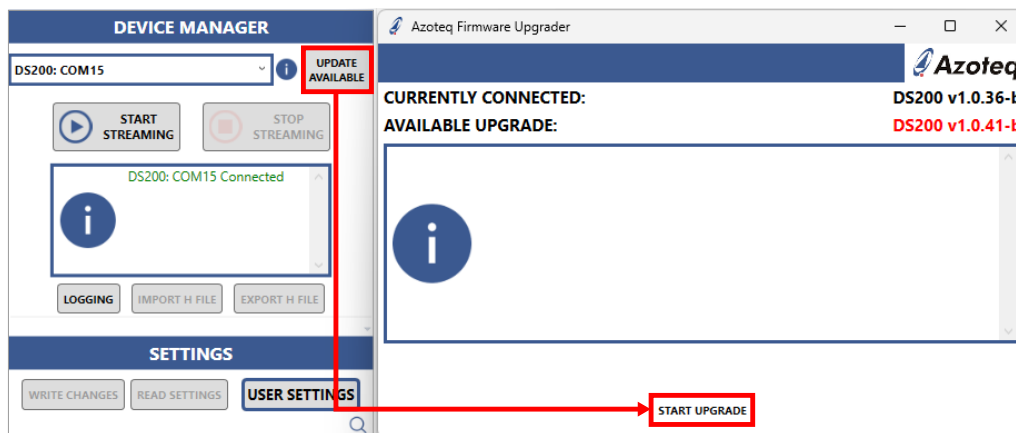

Figure 2.6: DS200 Firmware Upgrade
**Note:** If the connected DS200 device firmware is out of date, an ‘Update available’ button should automatically appear next to the device enumeration. Click this button to launch the Azoteq firmware upgrade tool and update the firmware, as shown in Figure 2.6.